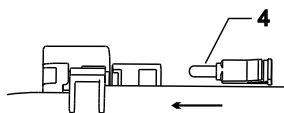

Fig. 2
3. After inserting left hinge "b" into holder "a", insert bolt 4 into the left holder "a" (see Fig. 2).